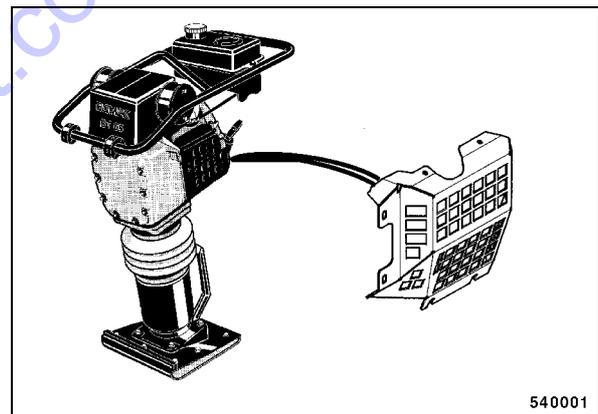

Fig. 62
- Remove the protection grid on the left hand side of the engine (Fig. 62).